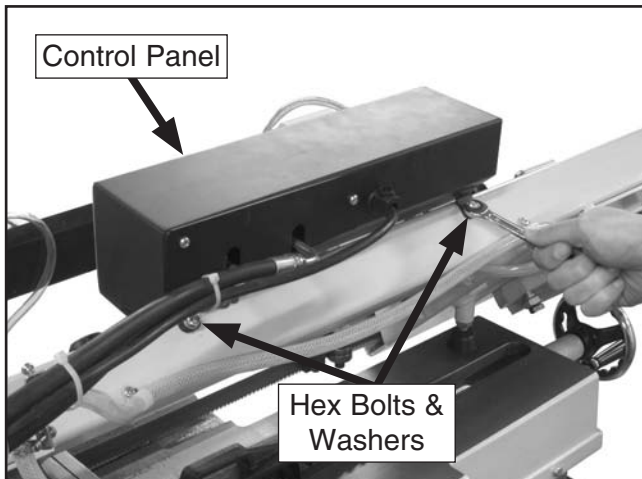

Figure 11. Attaching control panel.
3. Secure the control panel as shown in **Figure 11**, using the hardware removed in **Step 1**.